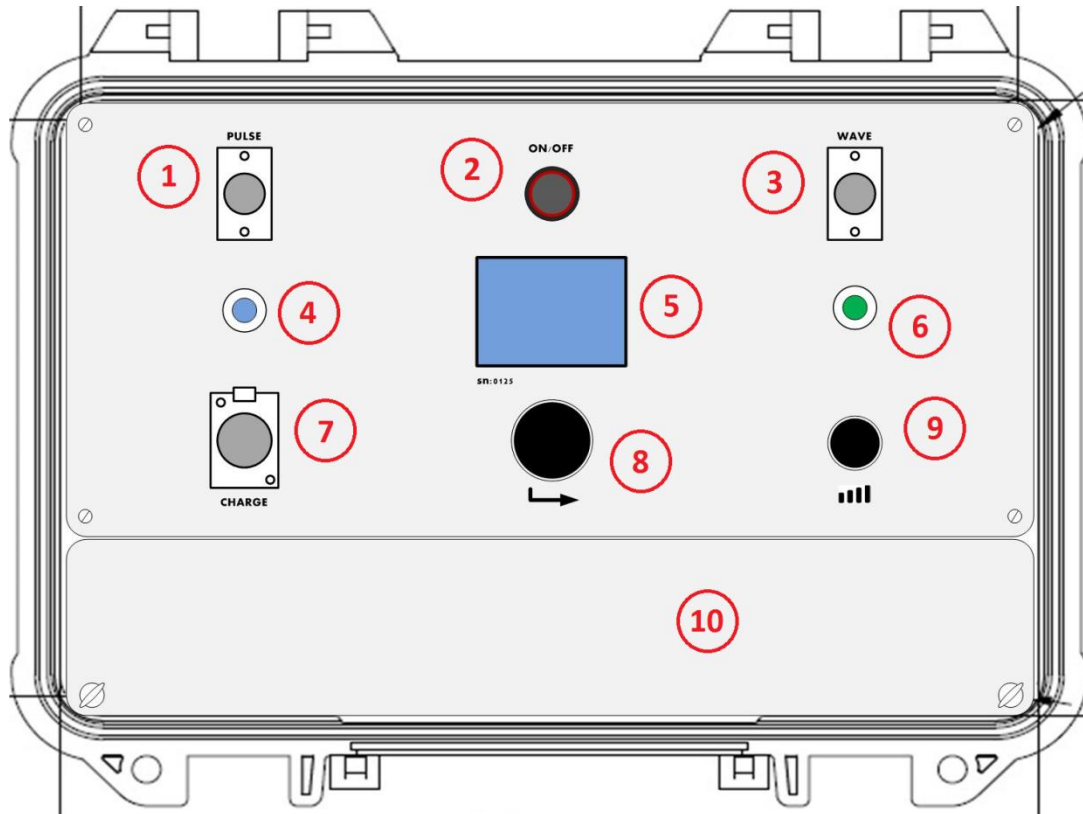

Fig.6.
- 4.7. The P-head is connected only to the "PULSE/WAVE" connector in the upper left corner on the Metronome Generator front panel ("2" in Fig. 6).
- 4.8. The W-head is connected only to the "PULSE/WAVE" connector in the upper left corner on the Metronome Generator front panel ("2" in Fig. 6).
- 4.9. The V-head is connected only to the "Vibration" connector in the upper right corner on the Metronome Generator front panel ("2" in Fig. 6).
5.2. A rotary switch with a confirmation function is used to control and change parameters, located on the front panel of the Metronome Generator ("8" in Fig. 6).
5.3. A potentiometer on the front panel of the Metronome Generator ("9" in Fig. 6) is used to adjust the volume.
6.2.3. Connect the P-head or the W- head to the socket "1" (see Fig. 6).
6.2.4. Press the On/Off Button of the Metronome Generator "2" (see Fig. 6).
6.3.2. Connect the V-head to the socket "3" (see Fig. 6).
6.3.3. Press the On/Off Button of the Metronome Generator "2" (see Fig. 6).